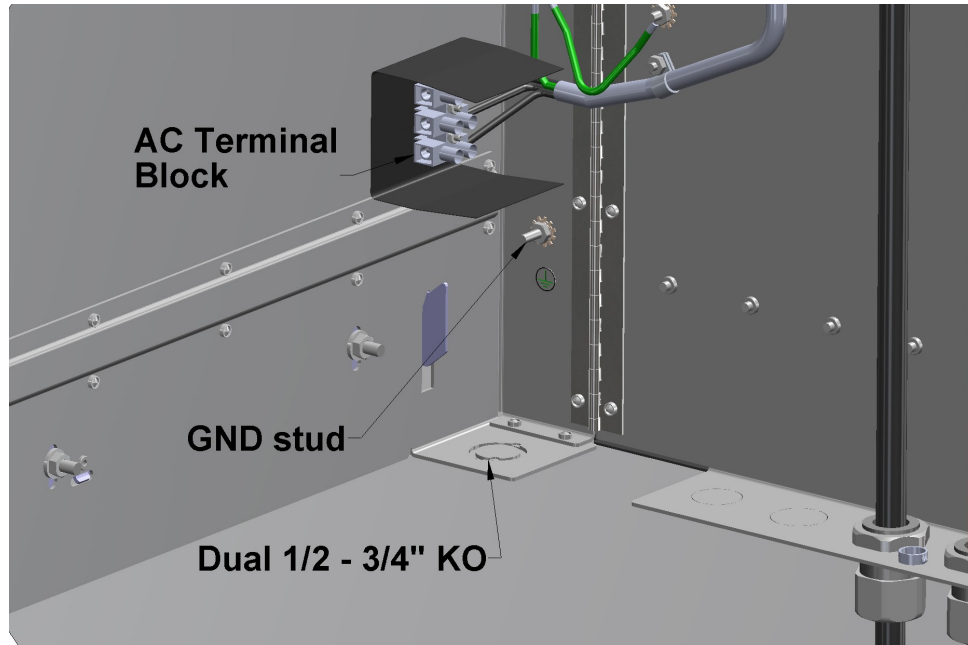

Figure 27: RV08 KO location
- Determine whether the 1/2" or 3/4" conduit hole will be utilized, if 3/4" is desired, punch out the outer ring from the knockout (KO) provided (Figure 27):
- Crimp a #10 ring tongue terminal to the ground (**GND**) wire and connect it to the GND stud (Figure 27). **Tighten the nut to 15 in-lb +/- 2 in-lb.**